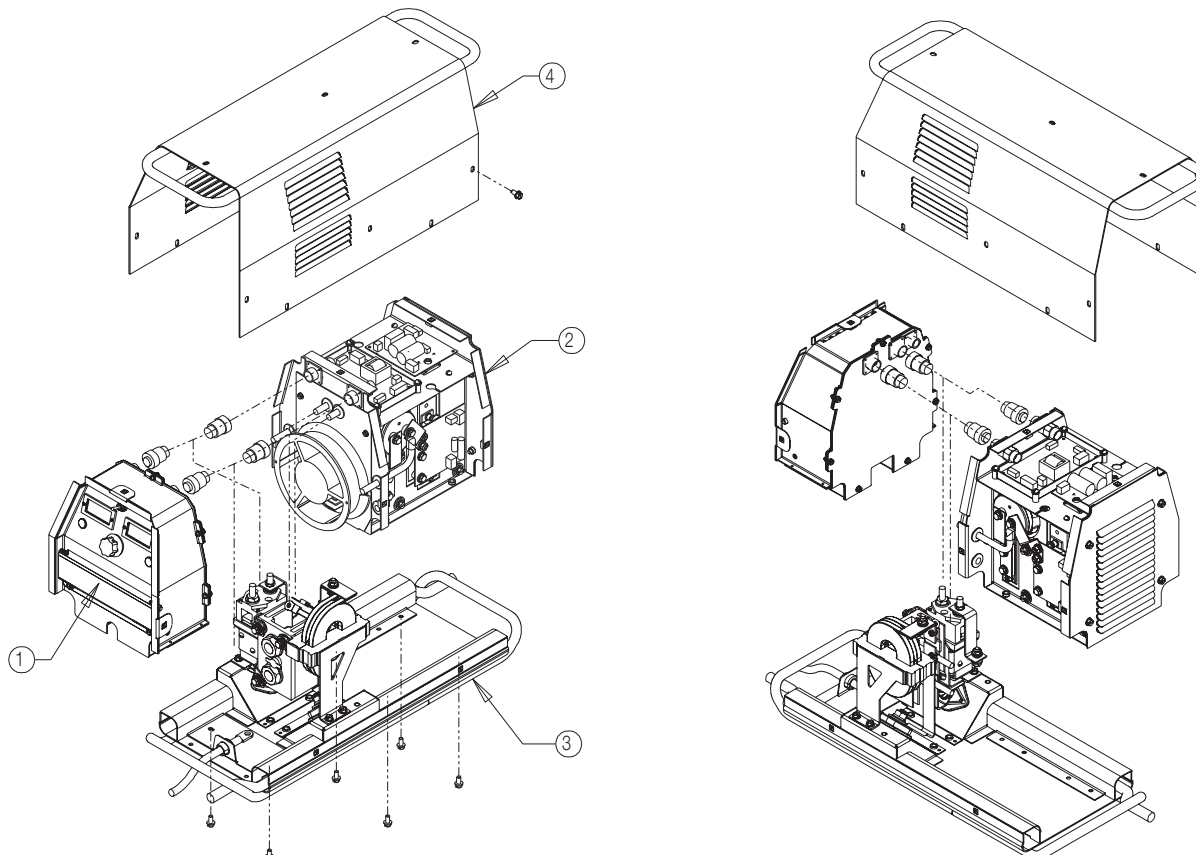

Figure 5
If calibration of either digital meter is ever necessary, meter calibration adjustment trimmers are provided on the Weld Control PC board inside the Control Module (see Figure 5). Calibration must be done with an Output current load, so meters are displaying Actual (not Preset) values. It is recommended that the calibration levels be near the rating plate values, for best accuracy, and compared to "master" meters with better than 2% accuracy.
The above, Figure 5, shows the three assembly modules of the Converter which are covered with the Case Wraparound (item (4)):